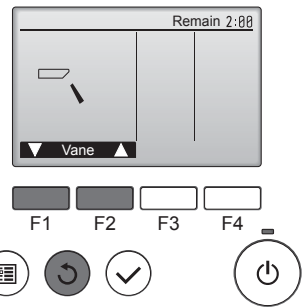

Fig. 6-6
- Check the auto vane with the **[F1]** **[F2]** buttons. (Fig. 6-6)